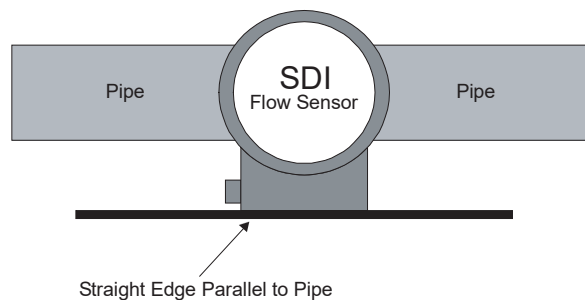

Figure 7: Align the flow sensor with the pipe
6. Continue to insert the flow sensor stem until the stem collar meets the cover. Thread the hex cap onto the mounting adapter but do not tighten. Align the flow sensor with the pipe by using the flat cover on the electronics housing as a guide. Place a straightedge along the cover and rotate the sensor until the straightedge is parallel with the pipe as shown in Figure 7. Tighten the hex cap over the collar approximately 10 ft-lb. The hex cap holds the sensor alignment but performs no sealing functions. **DO NOT OVER TIGHTEN**.